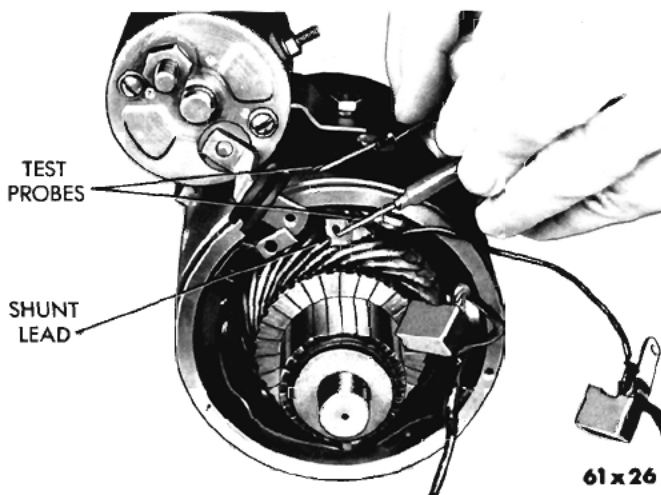

Fig. 11—Testing Shunt Coil for a Ground
(6) Touch one probe to the shunt field coil lead and the other probe to the field frame (Fig. 11).